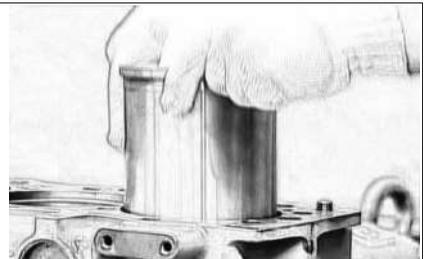

Fig 5-7 Wet Sleeves Installation
1.7 Coat some oil on O-rings. Push sleeves into cylinder block by hands. If it is too hard, may use woodblock on sleeves, knock woodblock to let sleeves into its position on block. The head face of the sleeves should be 0.05–0.12mm tall above cylinder plane (see Fig 5-7)